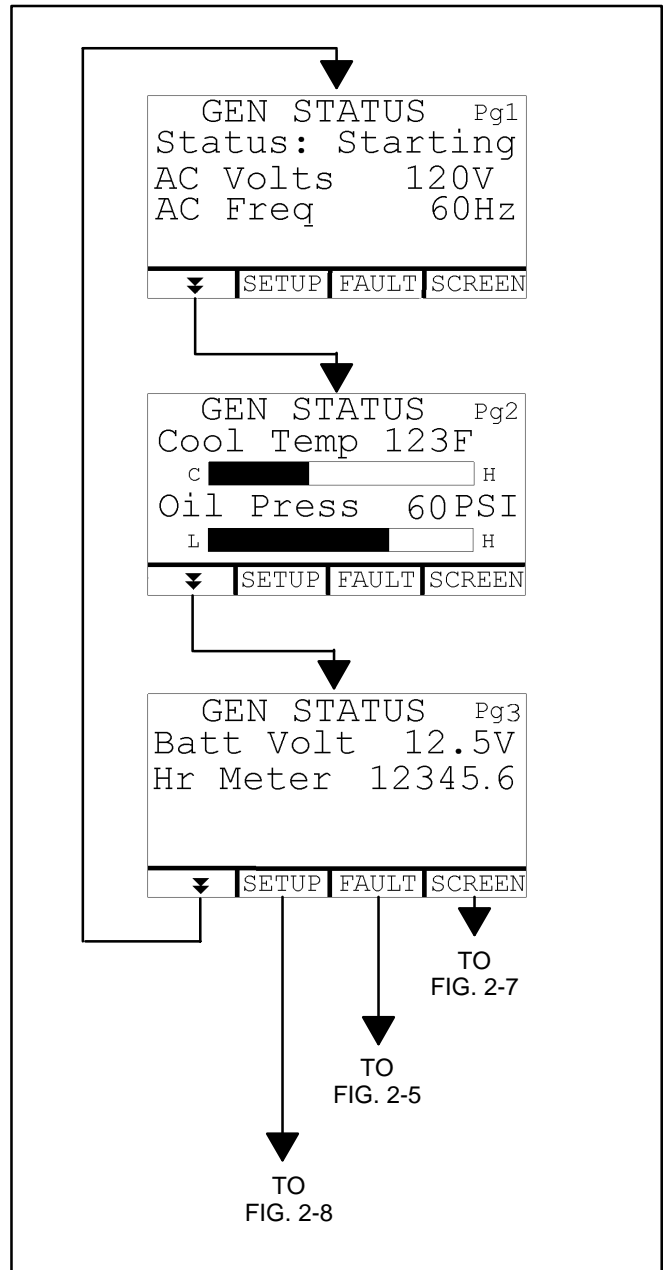

FIGURE 2-3. TYPICAL GENSET STATUS SCREENS
Starting the Genset: Push and Hold **START** until the genset starts. The GENSET status lamp blinks while the engine is cranking. It comes on when the genset starts and stays on while it runs. The status displayed on the LCD changes from *Starting* to *Running* (Figure 2-3). See STARTING THE GENSET (p. 3-3).
Stopping the Genset: Push and Release **STOP**. The GENSET status lamp will go out. The status displayed on the LCD will change from *Running* to *Stopped* (Figure 2-3). See STOPPING THE GENSET (p. 3-4).
Priming the Fuel System: Push and Hold **STOP**. The GENSET status lamp will blink. The status displayed on the LCD will change to *Priming* in 2 seconds (Figure 2-3). See PRIMING THE FUEL SYSTEM (p. 3-3).
Genset status is displayed on 3 screen pages (Figure 2-3). GEN STATUS PG1 appears when the Display is turned on. Press the double arrows [↕] to toggle between the 3 screen pages.
1. *Push and Hold START* on the e-Series Digital Display or control switch until the genset starts. The genset status lamp blinks when the engine is cranking and comes on and stays on when the genset starts and runs. The status displayed on the e-Series Digital Display changes from *Starting* to *Running* (Figure 2-3).